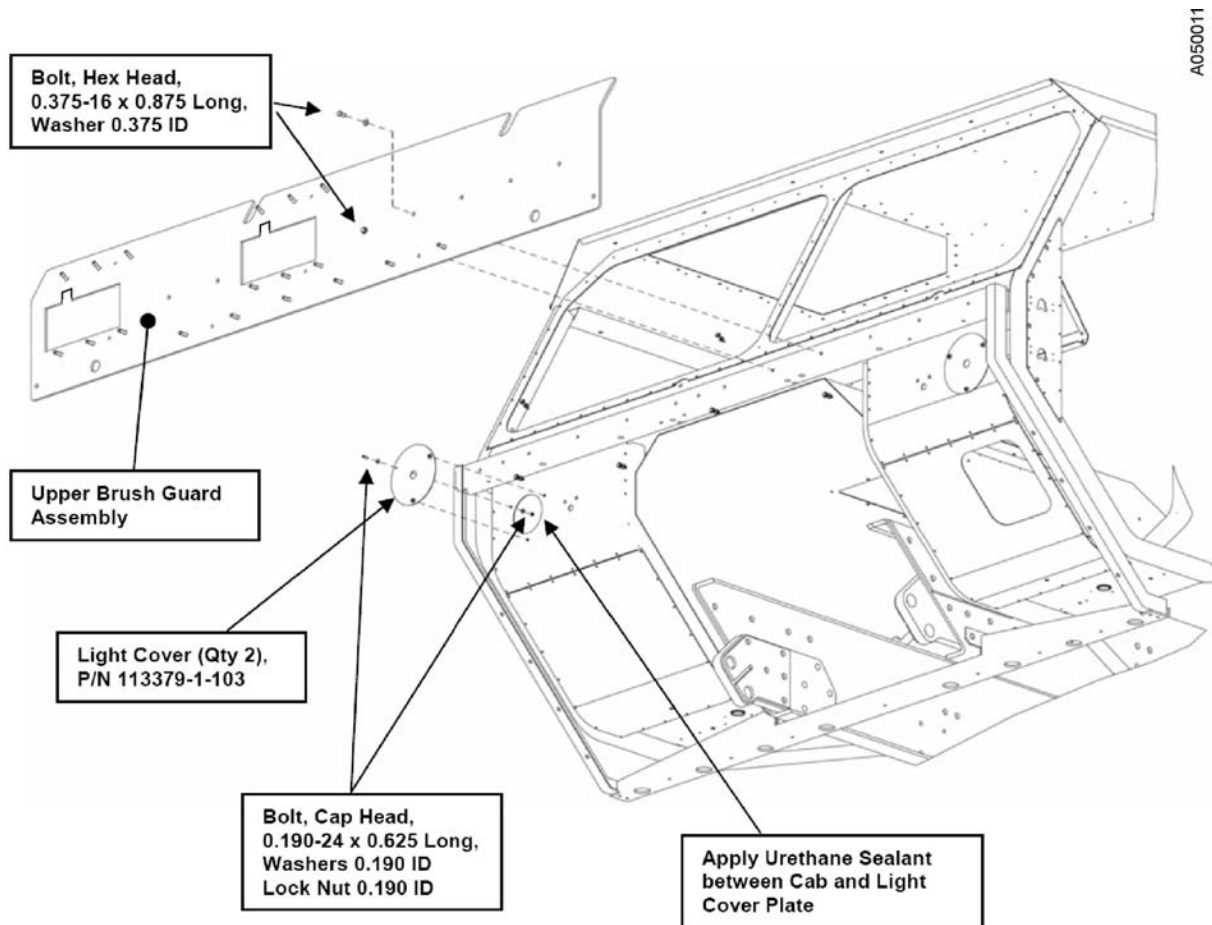

Figure 48. Upper Brush Guard Armor Panels.
- f) Apply Urethane Sealant (P/N 104302-1) around the perimeter of the light openings and install the Light Cover Plates (P/N 113379-1-103) using the hardware shown in Figure 48.
- g) Install the Upper Brush Guard Assembly using two 0.375-16 x 0.875-in. long Hex Head Bolts in the locations shown in Figure 48.